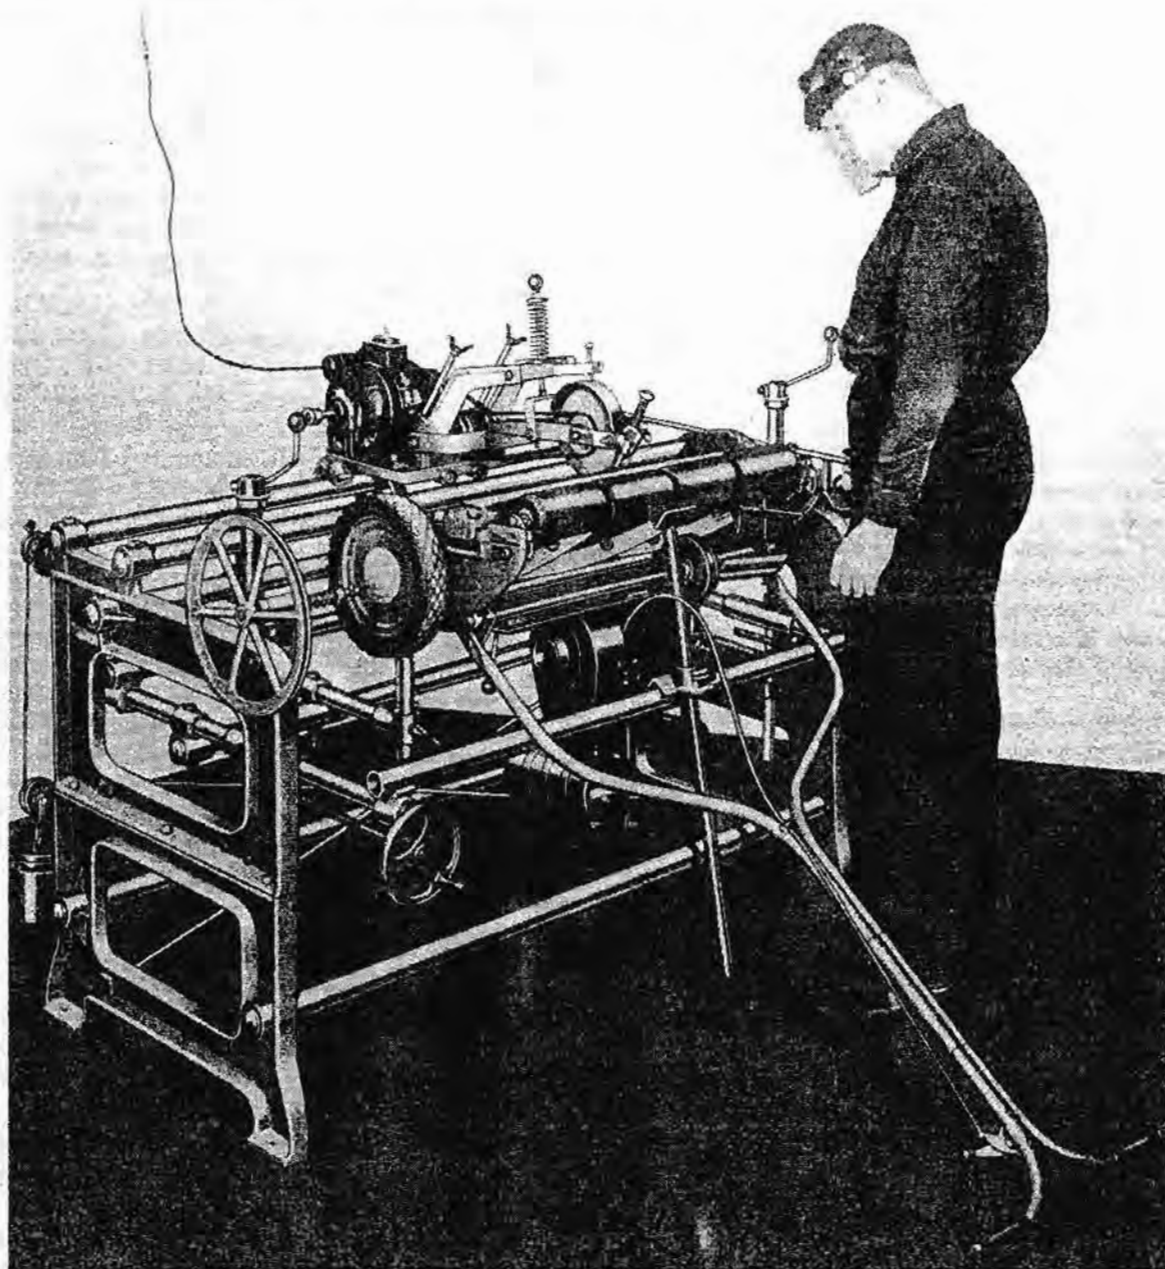
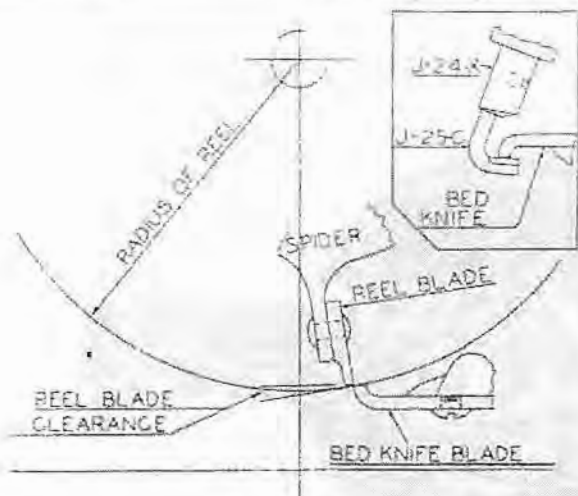

Fig. 14
Fig. 15
74. Choose the most suitable pair of mower supports for the mower to be sharpened and place them in position in the Peerless. If the point supports are used, pre-set them by measuring the hole spacings on the mower. Place the mower in the Peerless inverted as shown in the various illustrations. Figure 14 shows a home-type power mower in position. Place the roller support assembly under the roller and adjust the roller rest supporting pipe in or out until the roller support is about vertical. (See Fig. 14). The roller rest supporting pipe is adjusted by moving the supporting castings on the P-447 shafts at either side of the machine.
level, (as though it were in mowing position set up side down). See Fig. 14. This should make the bottom of the bed knife blade about level as in Fig. 15. Move the mower supports out against each side frame to eliminate any possibility of side movement of the mower (unless point supports are used).
78. Next set the bevel to be ground on each reel blade and, in so doing, the mower will be further positioned for grinding. With the straight line grinding feed screw (#S-45, Fig. 2) backed away until it is not contacting the grinding carriage arm, the grinding head is lowered until the hook is from 1" to 1½" above the bed knife of the lawn mower. The grinding arm is locked in this position by tightening the two wing nuts (#J-80, Fig. 2). The spreader assembly (#J-16, Fig. 1) is now depressed and the hook engaged under the front edge of the bed knife in the middle of the mower. If the mower does not fall in line with the hook it must be moved in and out with the horizontal adjustment cranks at either side of the machine (#P-230, Fig. 1) until the hook will engage under the front edge of the bed knife and extend back about ¼" to ⅛" from the cutting edge. (See Fig. 15).
85. With the feed weight connected, you are ready to grind your first mower. We would suggest that you add at least one extra weight to the feed weight, and later on you may wish to use both for taking heavier cuts. The weight feed works better with a little oil applied to the surface of the hook and to the underside of the bed knife blade where the hook slides. (See inset in Fig. 15.)